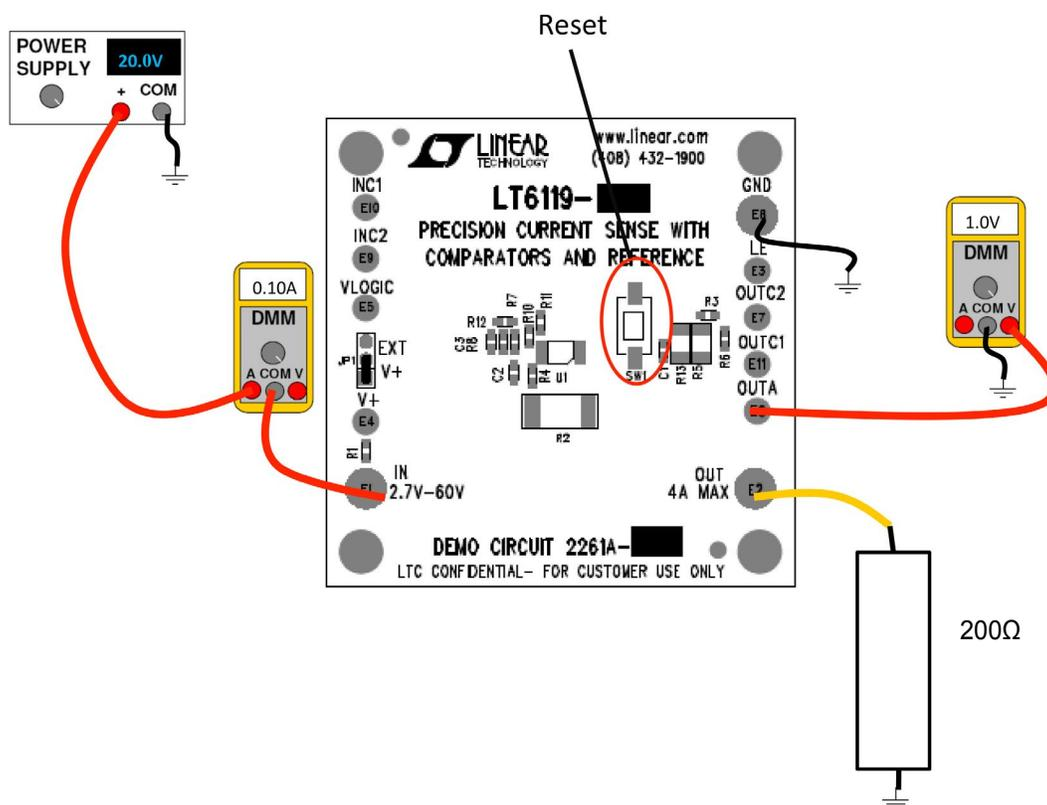

Figure 1. Test Setup
With the demonstration circuit, it is easy to set up and evaluate the performance of the LT6119. Refer to Figure 1 for proper measurement equipment setup and follow the procedure below:
1. With the power off, connect the power supply positive to IN and the common to GND. With default settings the supply can range from 2.7V to 60V. If the supply does not have an accurate current readout, a DMM may be connected in series with the supply as shown in Figure 1.
5. Measure the output voltage and confirm that it corresponds to the load current. $V_{OUTA} (V) = 10 \cdot I_{LOAD}(A)$ for the factory installed resistors.